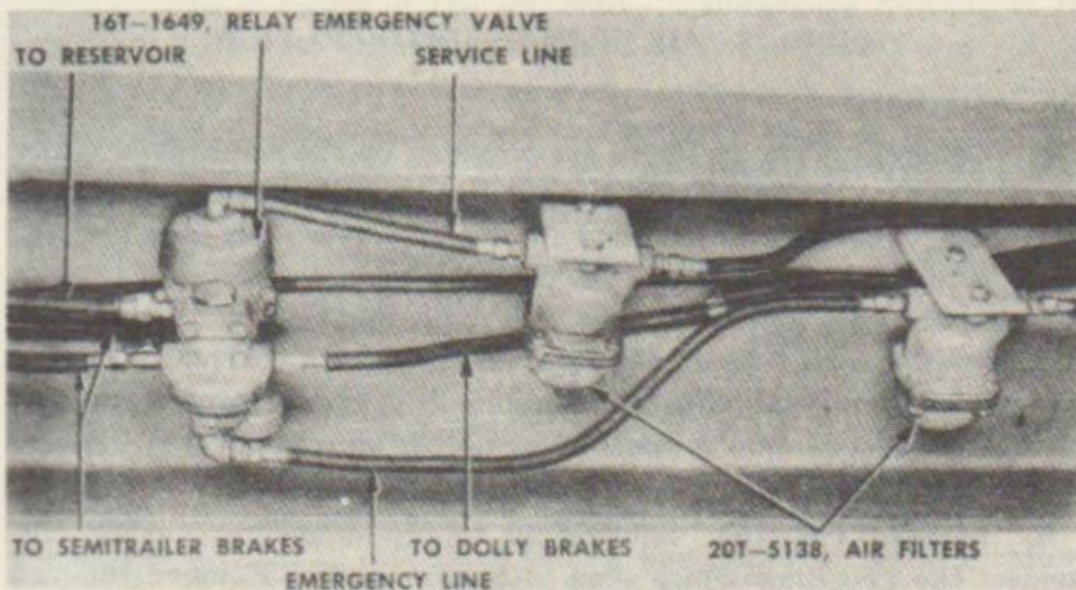

FIGURE 26. RELAY-EMERGENCY VALVE AND AIR FILTERS
b. **Removal** (figs. 26 and 28). Shut off the air supply to trailer by closing the two cut-out cocks on towing vehicle. Open drain cock at bottom of reservoir tank allowing all air to drain from trailer brake system. Remove tubing nut from tubing elbow at the service line and also at the emergency line. Disconnect the two lines from tubing tee which run to the semitrailer brake chambers. Disconnect line which runs to dolly brakes and reservoir. Remove two nuts, lock washers and cap screws which hold the assembly to frame.
c. **Installation** (fig. 26). Coat the threaded portion of all valve fittings with shellac. Screw the fittings into their proper ports in relay-emergency valve. Secure the relay-emergency valve to member using two cap screws, two lock washers and two nuts. Couple the two lines to tubing tee. Couple service line to elbow at top and emergency line to elbow at bottom. Couple air line which runs to reservoir and dolly brake chambers. Close drain cock at bottom side of reservoir. Open the two cut-out cocks at towing vehicle. Test all fittings and connectors for leaks (para. 48 g.).
b. Removal (fig. 26). Shut off air supply at towing vehicle. Disconnect the two lines which lead into filter body. Remove the two connector bodies. Remove the two cap screws holding filter to mounting bracket and lift filter out.
b. Removal. Turn exhaust check valve counterclockwise and lift out (fig. 26).